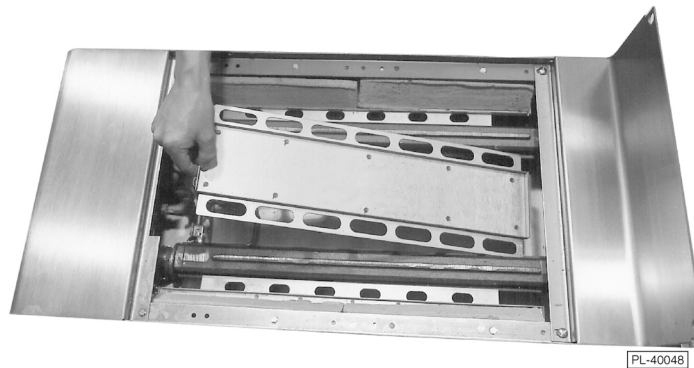

Fig. 13
1. Center Support (1) — Place in center with smooth surface down (Fig. 13).